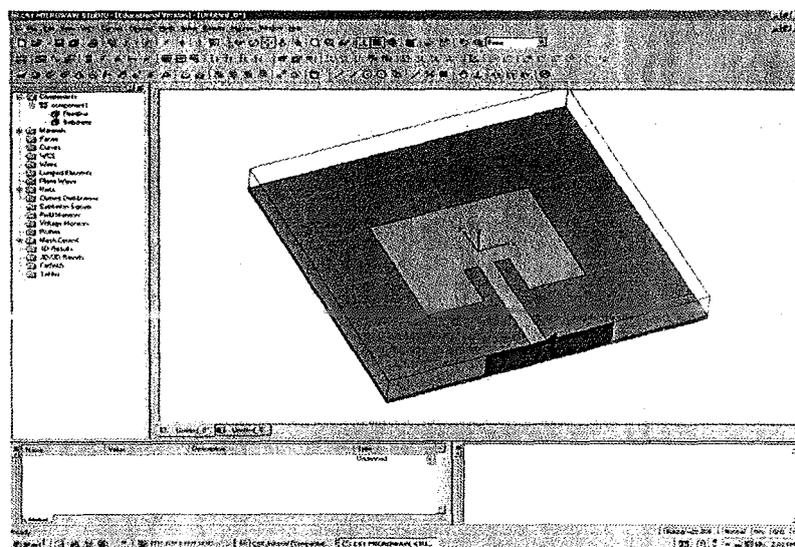

Fig.19 Definition of the wave port
- After you click ok you should see port 1 defined as shown in Fig.19